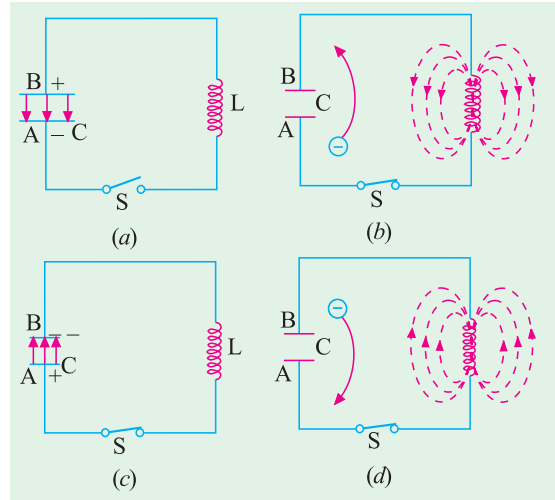

Fig. 65.3
It is also called *LC* circuit or tank circuit. The oscillatory circuit (Fig. 65.3) consists of two reactive elements *i.e.* an inductor and a capacitor. Both are capable of storing energy. The capacitor stores energy in its electric field whenever there is potential difference across its plates. Similarly, a coil or an inductor stores energy in its magnetic field whenever current flows through it. Both *L* and *C* are supposed to be loss-free (*i.e.* their *Q*-factors are infinite).
As shown in Fig. 65.3 (a), suppose the capacitor has been fully-charged from a dc source. Since *S* is open, it cannot discharge through *L*. Now, let us see what happens when *S* is closed.
1. When *S* is closed [Fig. 65.3 (b)] **electrons** move from plate *A* to plate *B* through coil *L* as shown by the arrow (or conventional current flows from *B* to *A*). This electron flow reduces the strength of the electric field and hence the amount of energy stored in it.
the electric field [Fig. 65.3 (b)].
5. However, due to self-induction (or electrical inertia) of the coil, more electrons are transferred to plate *B* than are necessary *to make up the electron deficiency there*. It means that now plate *B* has more electrons than *A*. Hence, capacitor becomes charged again though in opposite direction as shown in Fig. 65.3 (c).
7. After this, the capacitor starts discharging in the opposite direction so that, now, the electrons move from plate *B* to plate *A* [Fig. 65.3 (d)]. The electric field starts collapsing whereas magnetic field starts building up again though in the opposite direction. Fig. 65.3 (d) shows the condition when the capacitor becomes fully discharged once again.